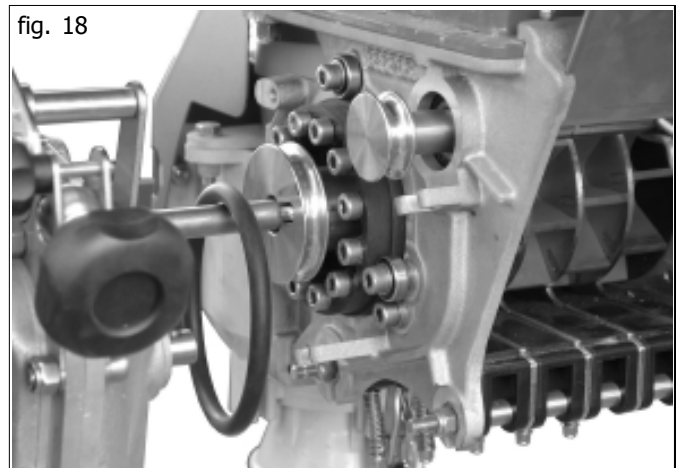

fig. 18
- Simply leave the belt on the drive shaft (Fig. 18).